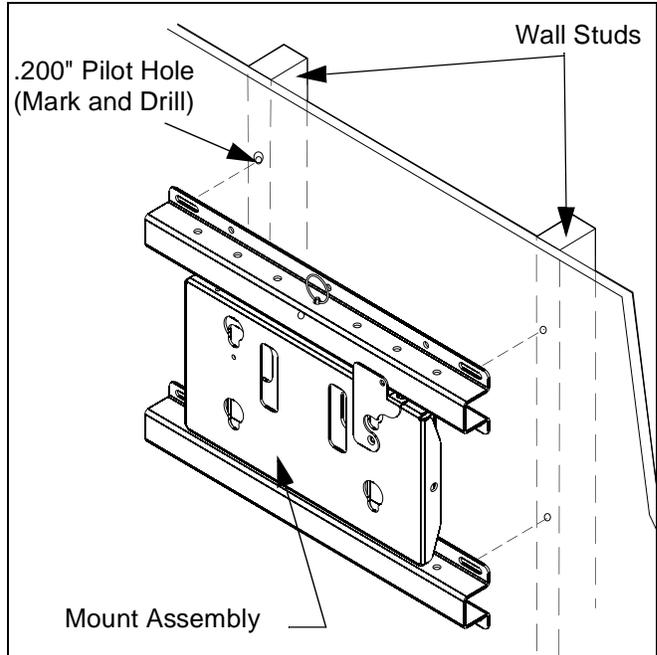

Figure 3: Locate, Mark and Drill Pilot Holes
3. Place mount assembly against wall, level mount, and mark pilot hole locations (See Figure 3).
4. Drill four .200" pilot holes, at marked locations (See Figure 3).